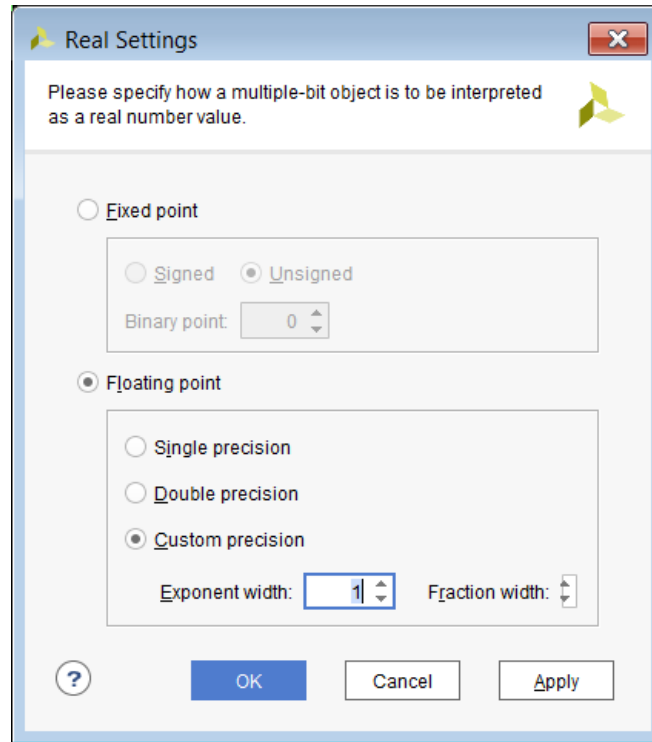

Figure 11-8: Real Settings Dialog Box
- Real radices cause bus values to be interpreted as fixed point or floating point real numbers, as determined by the settings of the **Real Settings** dialog box, shown in Figure 11-8.